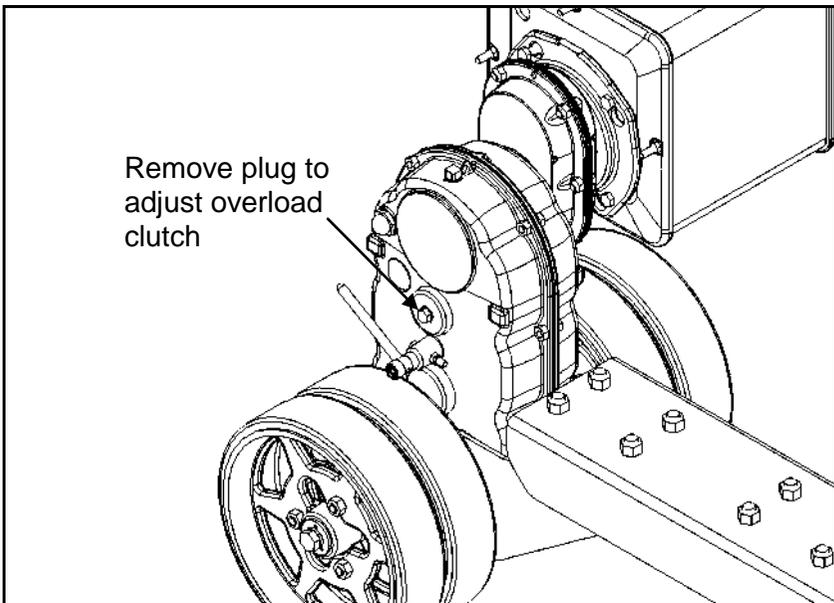

Figure 2: Overload Clutch Adjustment Location
3. Remove the overload cover plug (GK016) from the gear casing. See Figure 2 on page 11.